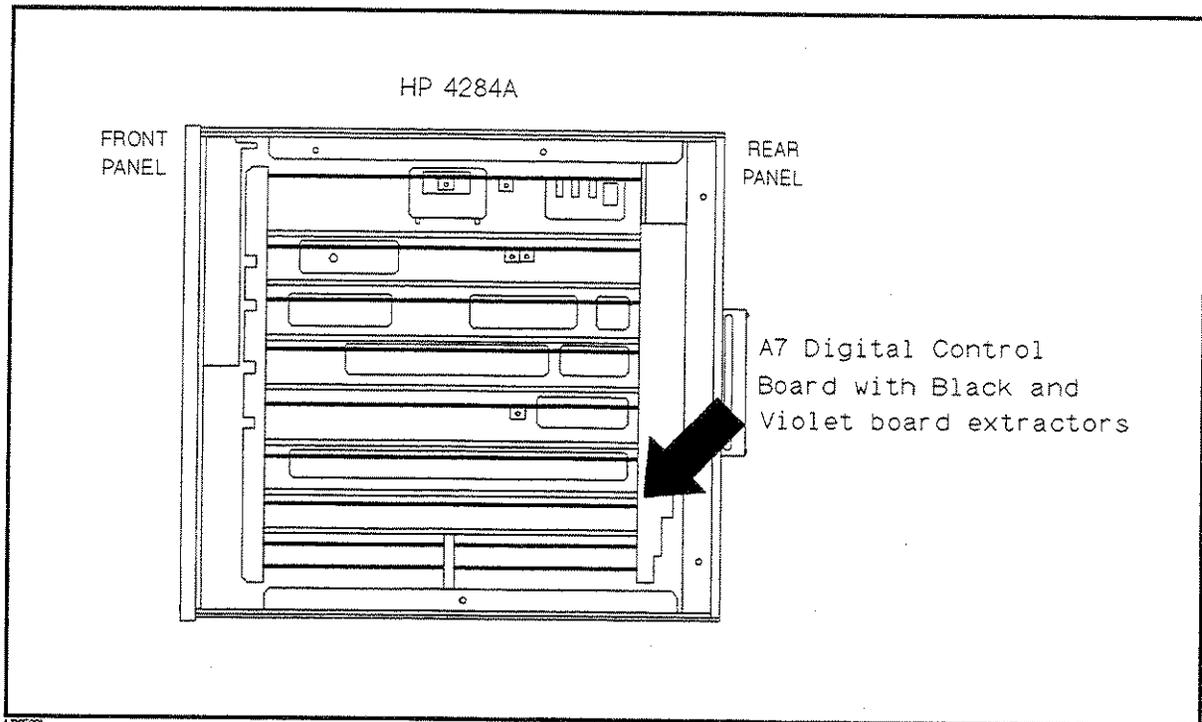

Figure E-1. A7 Digital Board Location
7. Remove the A7 board. Figure E-1 shows the A7 board's location.